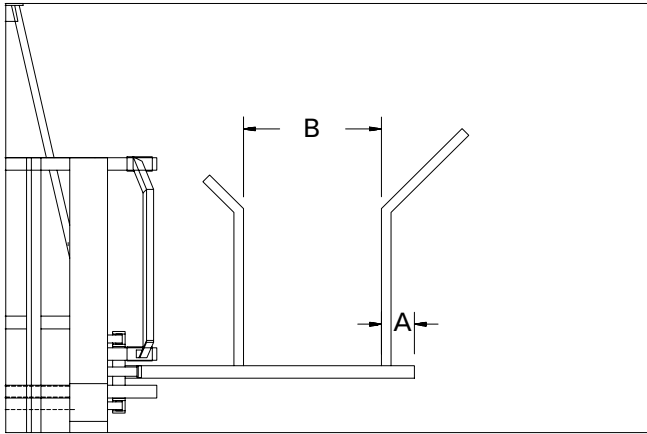

Figure 12
- 1) Adjust the opening and position of the loading arms according to recommendations (Figure 12). Adjust length A to 14" and length B to (Bale diameter less 8" to 10"). The dimensions given are to be used as a guide only since they may vary according to the bale size, weight and degree of softness.